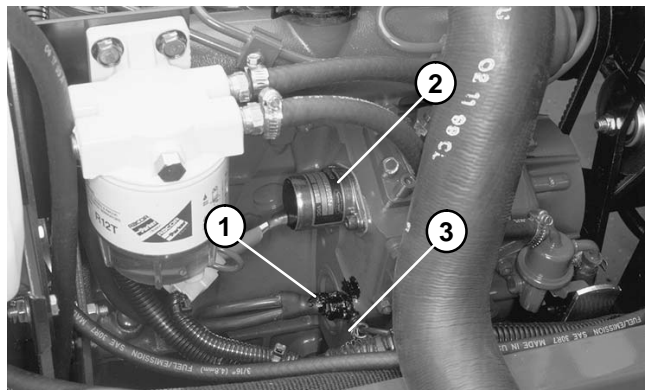

Figure 28
- B. Battery, frame, and wire harness ground to the engine block and the ETR solenoid (Fig. 28).